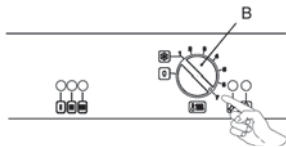

Figure 15.7
- Turn the boiler ON positioning the function selector B in the position shown in Figure 15.7 and ensure that the room thermostat is set to "heat demand".
- Watch the gauge and check to see if the ignition pressure registered corresponds to the values given in the Technical Data. Turn off the boiler and reignite it by turning the function selector B to the 0 position and then back to that indicated in Figure 15.7.